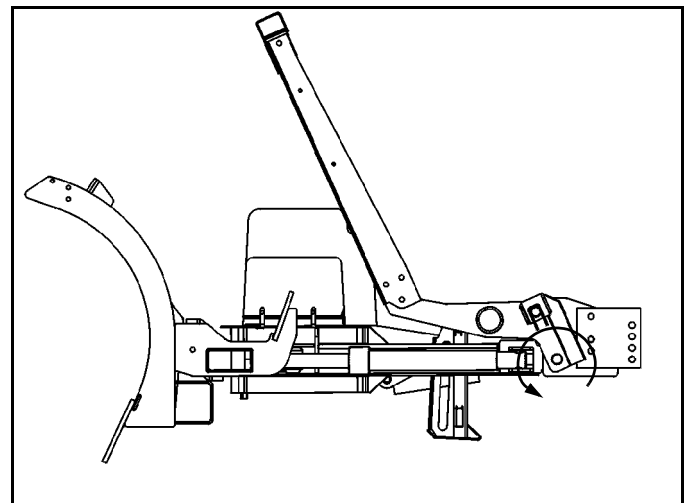

Figure 1-29
7. Rotate jack stand down and raise A-frame by pressing the up button. (See Figure 1-29).